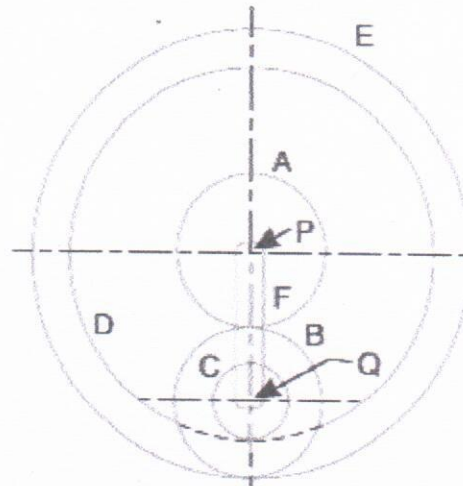

Fig.5
- (a) A compound epicyclic gear is shown diagrammatically in Fig.5. The gears *A*, *D* and *E* are free to rotate on the axis *P*. The compound gear *B* and *C* rotate together on the axis *Q* at the end of arm *F*. All the gears have equal pitch. The number of external teeth on the gears *A*, *B* and *C* are 18, 45 and 21 respectively. The gears *D* and *E* are annular gears. The gear *A* rotates at 100 r.p.m. in the anticlockwise direction and the gear *D* rotates at 450 r.p.m. clockwise. Find the speed and direction of the arm and the gear *E*.